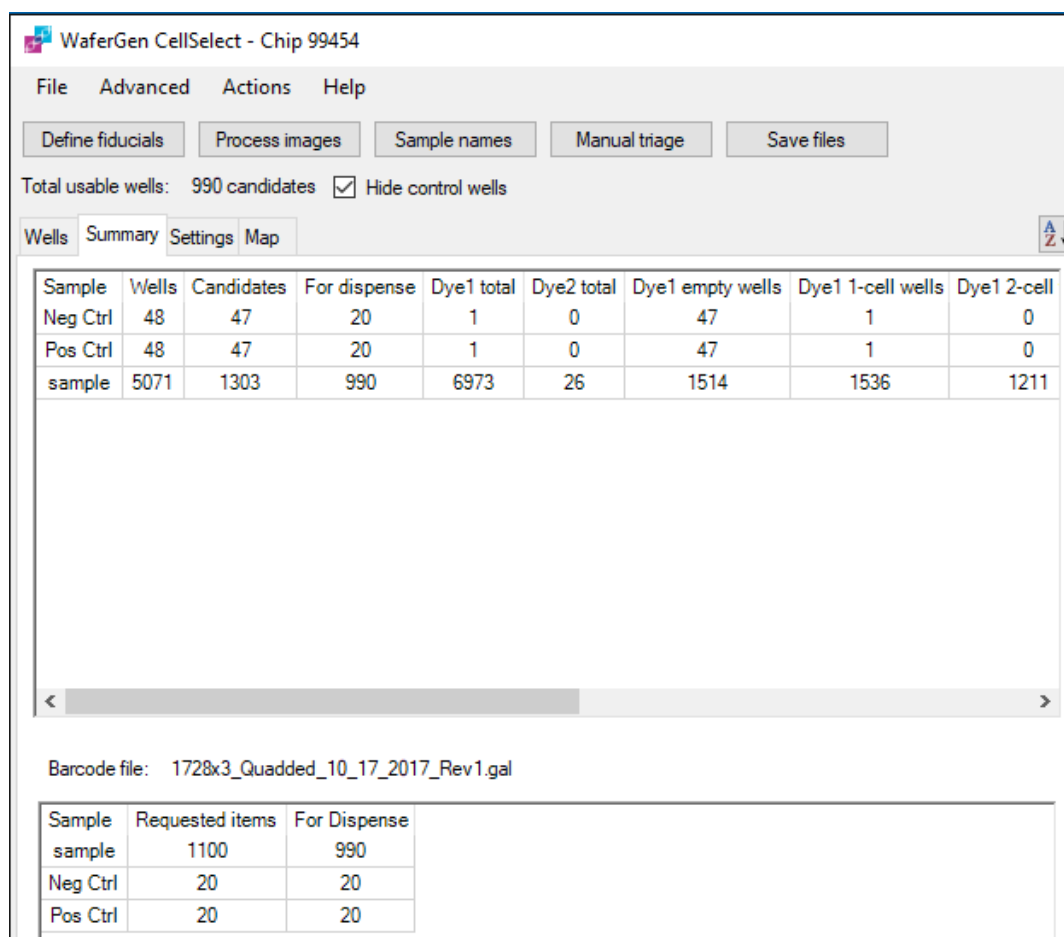

Figure 32. Number of wells available for dispensing.
- Go to the *Summary* tab (Figure 32, below) which will show the number for requested wells and the number available for dispensing.